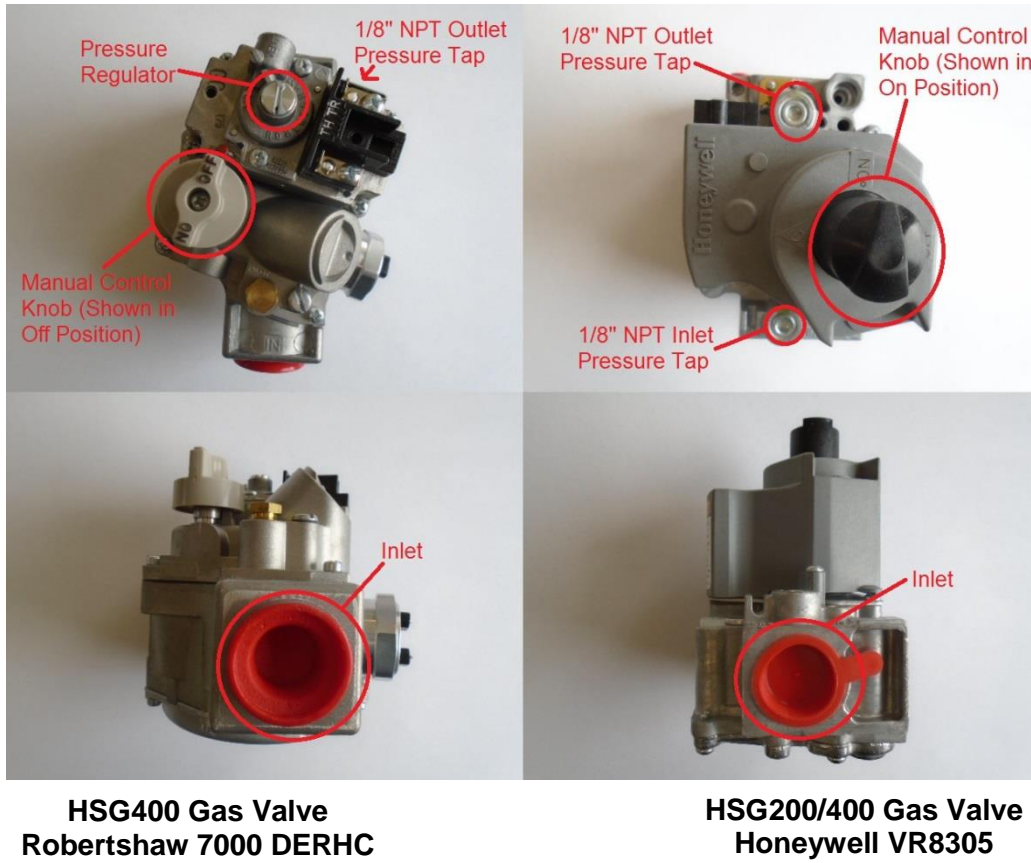

Figure 17: Gas Valves for HSG Series Burner
1. Depress the combination gas valve manual control knob and turn to "OFF" position. (For location of the manual control knob, refer to Figure 17). Remove the 1/8" NPT pressure tap plug from the gas valve and install a hose barb fitting. Connect a manometer to the hose barb fitting.